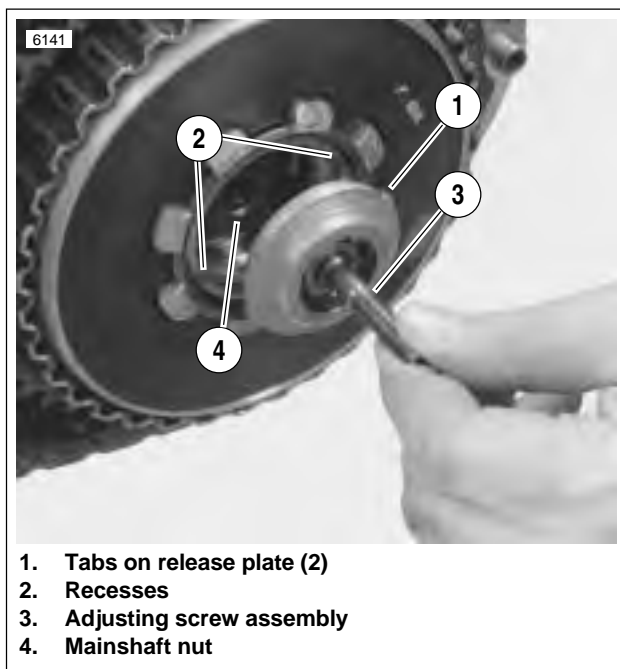

Figure 6-15. Aligning Tabs
4. See Figure 6-15. Remove adjusting screw assembly.
See Figure 6-15. Mainshaft nut has left-hand threads. To prevent damage, turn nut clockwise to loosen and remove from mainshaft.
- a. See Figure 6-15. Align two tabs on perimeter of release plate with corresponding recesses in pressure plate.